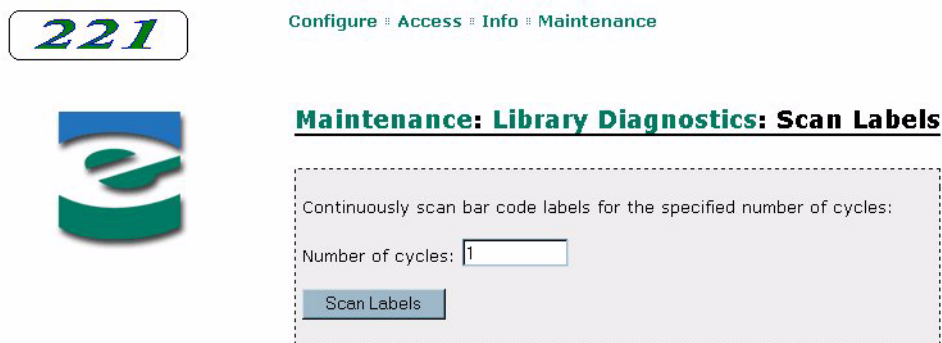

Figure 6-40 Remote management utility – Scan Labels Diagnostics page
4. Click on Continuously scan bar code labels. A page similar to Figure 6-40 appears.